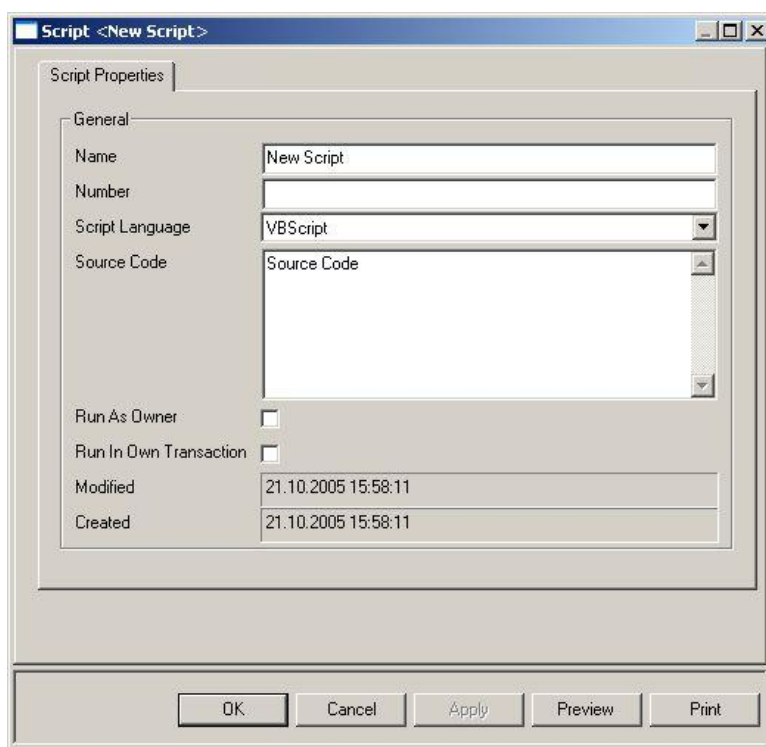

Figure 4: Script Properties
- 1) Activate the **Run As Owner** function in the script dialog. *Please refer to the Figure 4.*